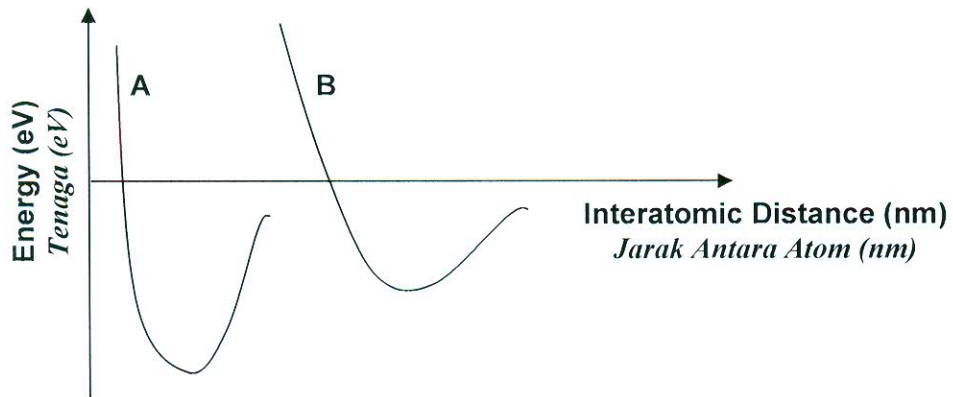

Figure 1
1. An energy-interatomic distance plot of element A and B is shown in Figure 1.